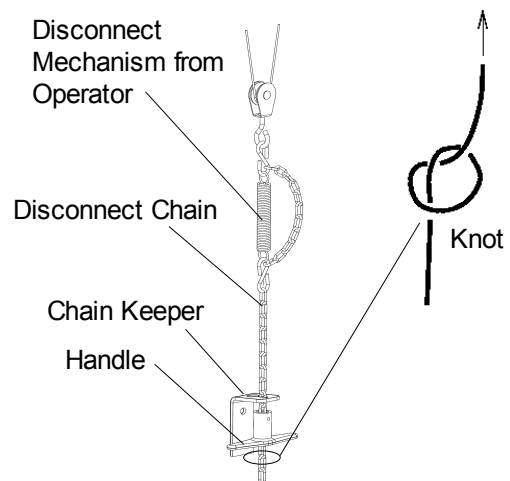

Figure 12 - Disconnect Chain
1. Link the disconnect chain to the hook located at the extremity of the operator's disconnect mechanism, see Figure 12.